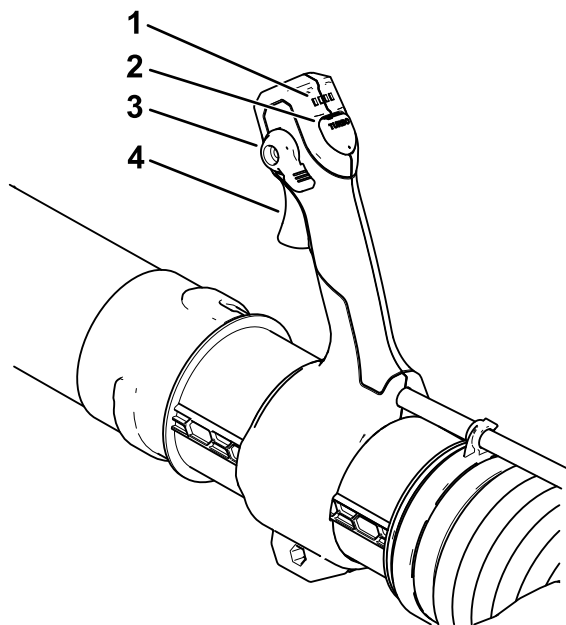

Figure 20
9. To start the blower, squeeze the variable-speed trigger (Figure 20).
Note: Engage the speed lock to keep the machine on without pressing the variable-speed trigger (Figure 20).
To adjust the air speed as you blow, use the variable-speed trigger (Figure 20).
To achieve maximum performance (air speed), hold the trigger, then press and hold the turbo boost button for the desired amount of time (Figure 20).
To maintain the current air speed, engage the speed lock (Figure 20).